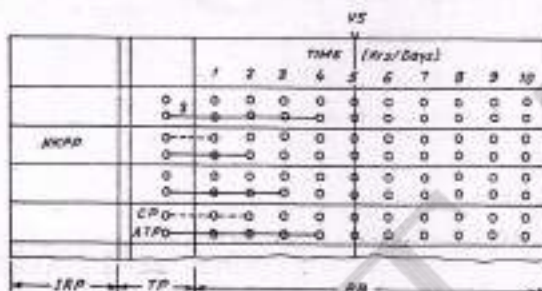

Fig. 7.23. Produc-Trol Board.
- (a) Produc-Trol Board. Fig. 7.23 show a Produc-Trol board.